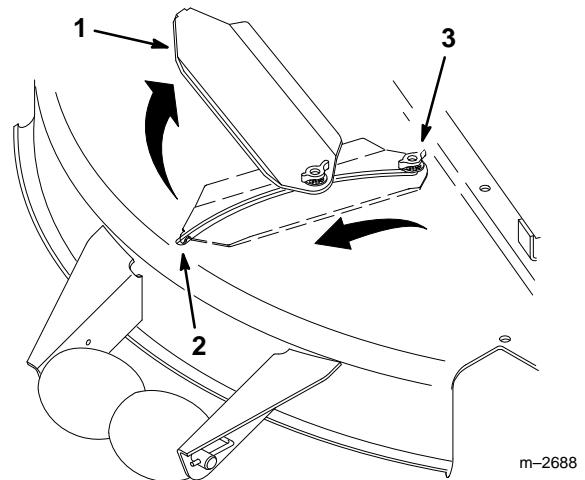

Figure 30
1. Discharge Deflector	3. Locknut (2)
2. Hex Head Bolt (2)	4. Flat Washer (2)
5. Loosen the wing nut on the front cover shaft (Fig. 30).
6. Lift the tab on the end of the slot cover up and out of the slot in the deck, then rotate the slot cover 180 degrees (Fig. 30).